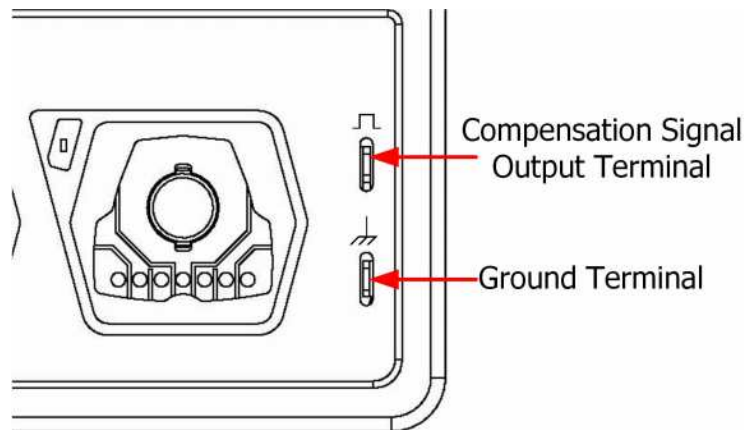

Figure 4.7 To Use the Compensation Signal
2. Connect the ground alligator clip of the probe to the "Ground Terminal" as shown in *Figure 4.7* below.
3. Use the probe to connect the input terminal of CH1 of the oscilloscope and the "Compensation Signal Output Terminal" of the probe, as shown in *Figure 4.7*.